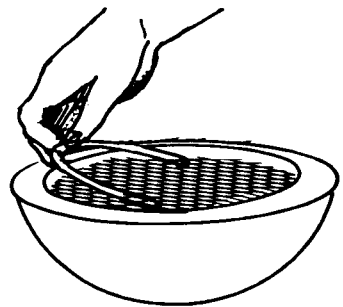

FIGURE 4 REINFORCING THE TRAP CORE
1. Add about 2.5cm (1") of 1:1 cement-sand mix to the oiled trap master mold and put in some wire for reinforcing. Then fill it with 1:1 almost to the brim. See Figure 4.